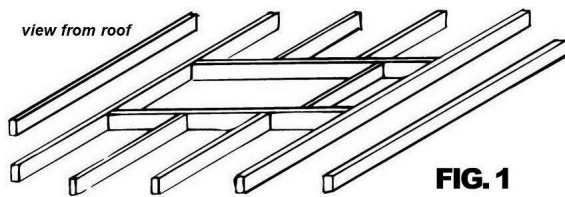
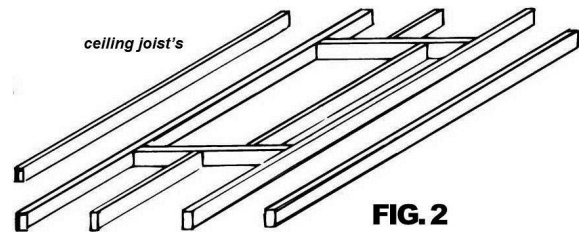

FIG. 1
FIG. 2
STEP TWO: *What you need to make the opening – Timber Joist (Fig. 1 and Fig. 2):* Timber, MPG10, 90x45mm pine or hardwood, about four (4) metres will be enough, pick a straight piece with minimal knots, and about 2 doz. 90mm long nails.